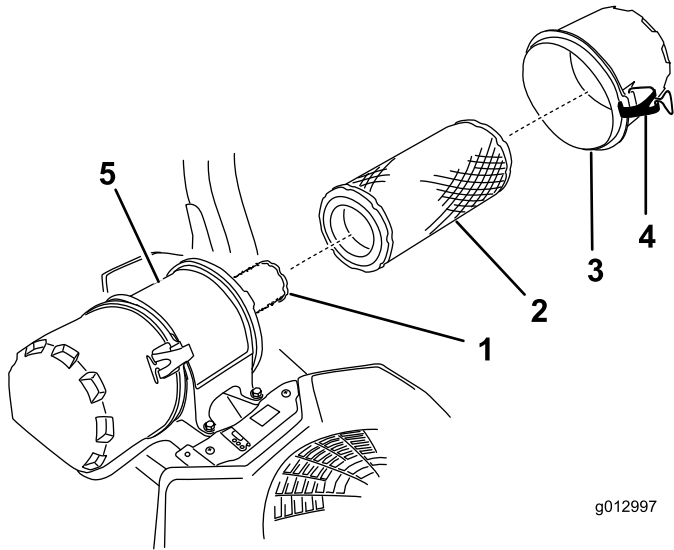

Figure 38
6. Release the latches on the air cleaner and pull the air-cleaner cover off the air-cleaner body (Figure 38).
8. Gently slide the primary filter out of the air-cleaner body (Figure 38).
2. If you are replacing the safety filter, carefully slide it into the filter body (Figure 38).
3. Carefully slide the primary filter over the safety filter (Figure 38).
4. Install the air-cleaner cover and secure the latches (Figure 38).